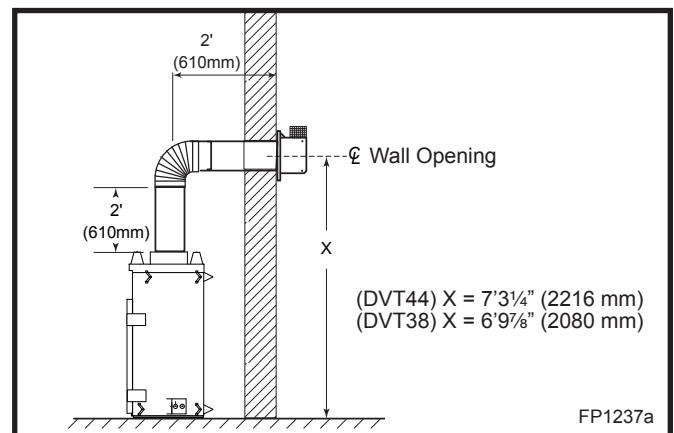

Fig. 17 Minimum vertical run / maximum horizontal run.
- The maximum number of 90° elbows per side wall installation is three (3), but must not have two (2) consecutive elbows in the horizontal plane.
- A minimum of 2' (610 mm) vertical section off the top of the unit is required, an elbow and a 1' (305 mm) maximum horizontal run to get through a wall. (Fig. 17)